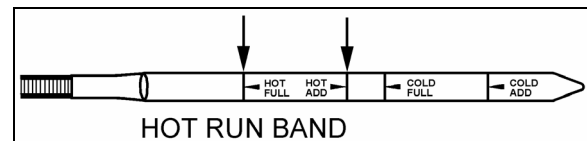

FIGURE 5: HOT CHECK
2. Park the vehicle on a level surface and shift to Neutral (N). Apply the parking brake and allow the engine to idle (500 - 800 rpm).
5. If the level is **not** within this band, add or drain fluid as necessary to bring the level within the HOT RUN band. (Fig. 5).